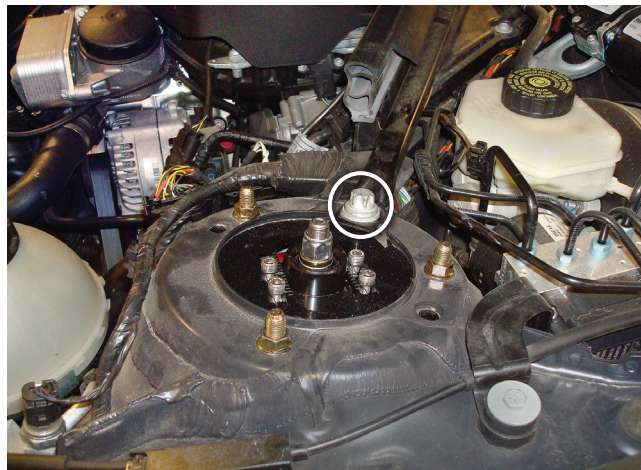

Fig. 22
4. Attach the strut tower brace to the camber plate. Torque bolt to 56Nm (41 lb.-ft.) + 90 degrees. Reinstall the plastic cover (Fig. 22).